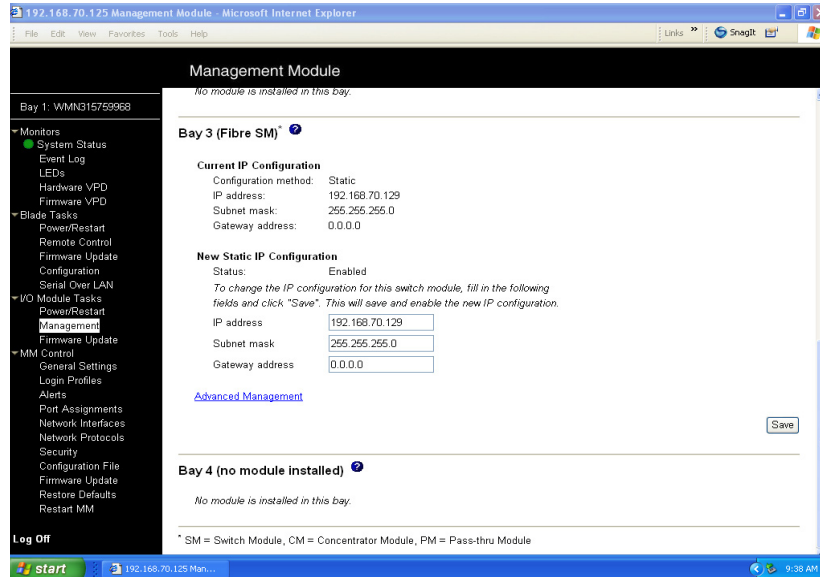

Figure 14. Switch Management window showing switch-module 3 example
- Click the link for either Bay 3 or Bay 4. A window similar to the one in Figure 14 on page 28 opens.